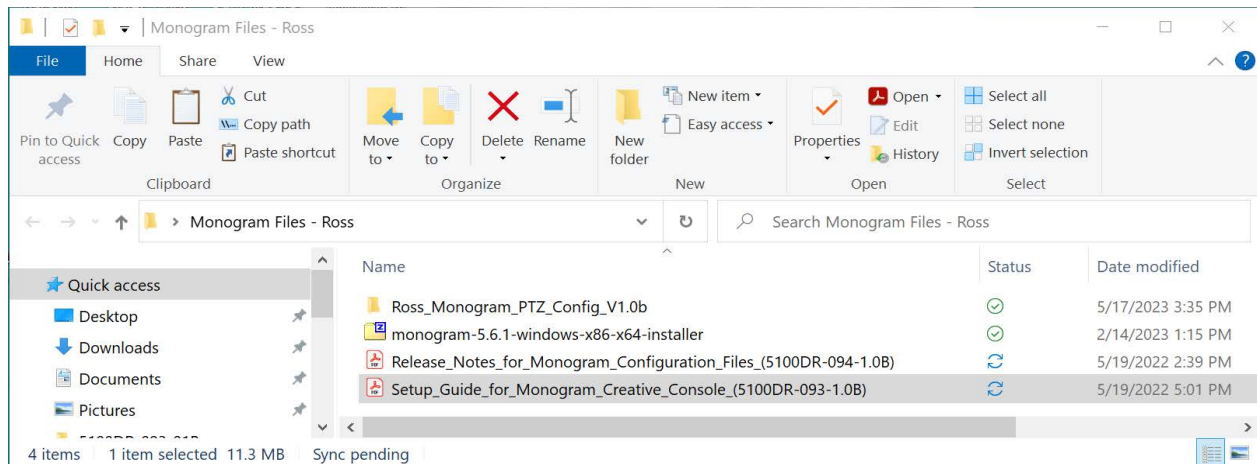

Figure 23 - Monogram Files Folder, showing Contents Extracted from a Monogram Files Zip Folder
4. Extract the contents of the **Ross_Monogram_PTZ_Config_<version>.zip** file into the **Monogram Files** folder (**C:\Ross\Monogram Files**), as shown in Figure 23.